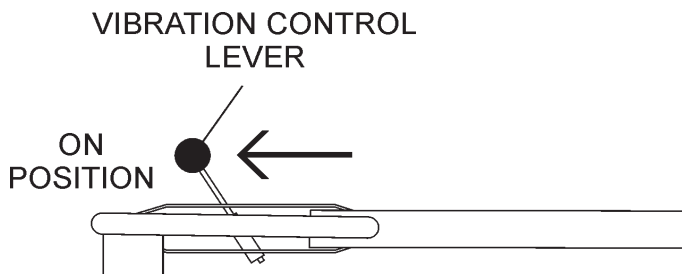

Figure 30. Vibratory Control Lever (ON)
1. For vibratory action, with the engine running (full speed) place the vibratory control lever (Figure 30) to the ON position. The roller will now produce a vibratory frequency of 4,400 vps.